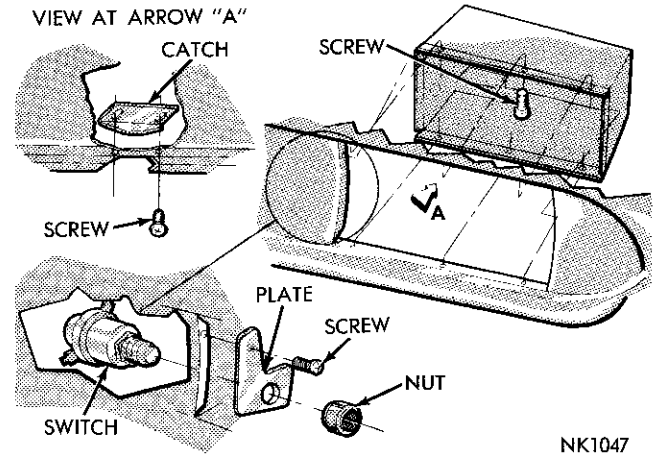

Fig. 42—Glove Box Installation (Imperial)
(2) Remove the screws attaching the glove box assembly (Fig. 42) to the opening in the instrument panel.
(3) Remove the nut attaching the deck lid remote switch to the glove box.
(4) Remove the glove box assembly from the opening.
glove box side panel and position the mounting plate over the end of the switch (Fig. 42).